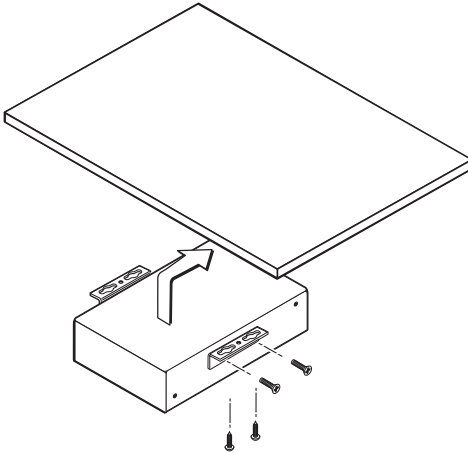

Figure 2-2 — Under-desk mounting
2. Secure the mounting brackets to the transmitter or receiver, using the four 4-40 screws provided (see figure 2-2 below).